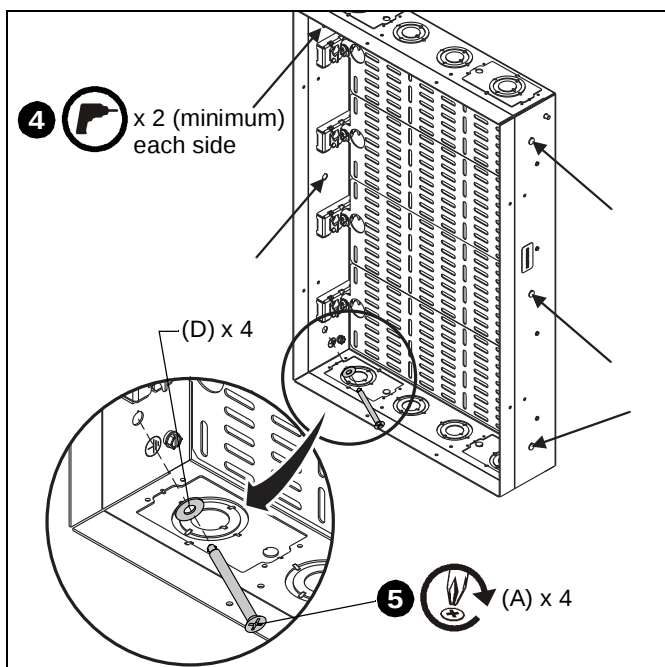

Figure 8
5. Install PAC527 to studs using four 1/4 x 2-1/2" Phillips flat head screws (A) and four 3/8" flat washers (D) through PAC527 and pilot holes. (See Figure 8)